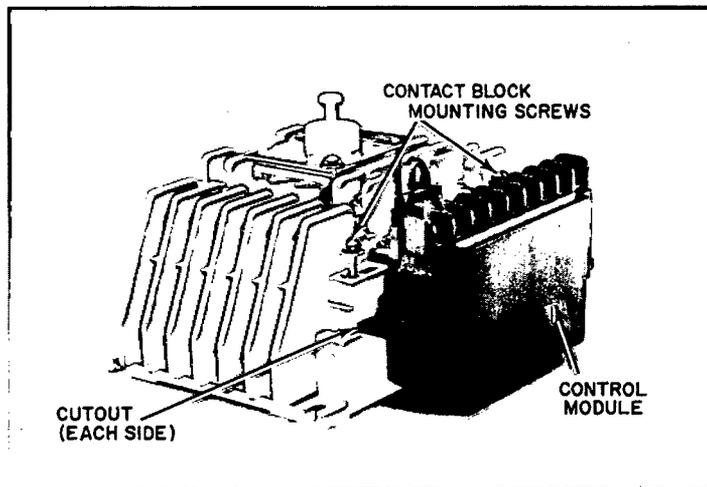

Figure 5.
5. For contactors with more than 6-poles the module is mounted to the side of the contactor. See Figure 5.